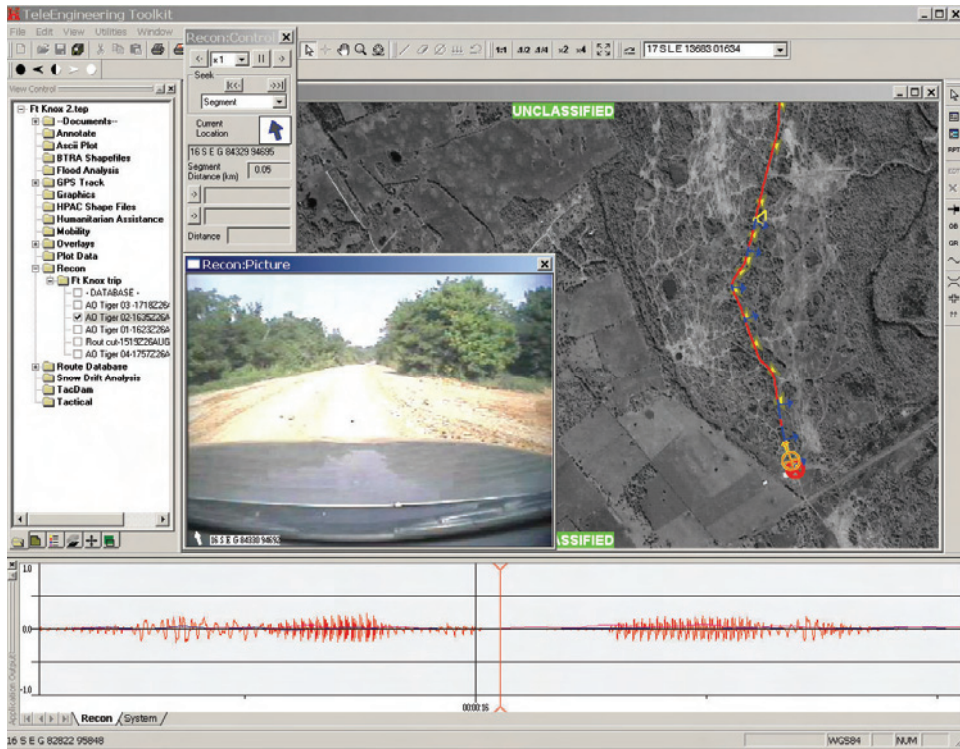

Figure 43. Saving still pictures
- c. **Save pictures displayed in the “Route:Picture” window.** While replaying the video, press “Pause” or “Stop”  in the “Route Control” window when the desired picture is shown in the “Route Picture” window (Figure 43). Move the mouse cursor into the “Route Picture” window and press the right mouse button. A “Save As” window will be displayed. Select a folder for the file and enter a file name; press “Save.”